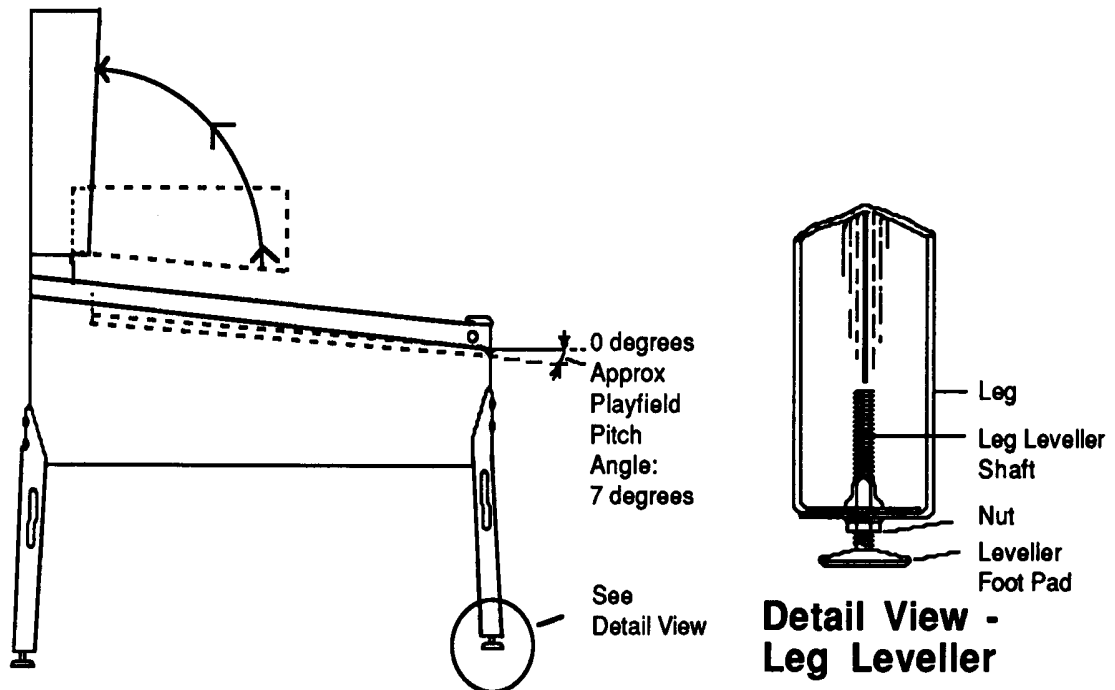

Figure 3. Pinball Assembly, Playfield Pitch Angle, and Leg Leveler Details.
3. Attach the front legs (after installing leg levellers), using leg bolts. See Figure 3 for details.
6. Adjust the leg levellers for proper playfield level (side-to-side) and playfield pitch angle (incline) of approximately 7 degrees. (Again, it is recommended that these measurements be made **ON** the playfield, not the cabinet nor the playfield cover glass.) Tighten the nut on each leg leveller shaft to maintain this setting, as shown in Figure 3.